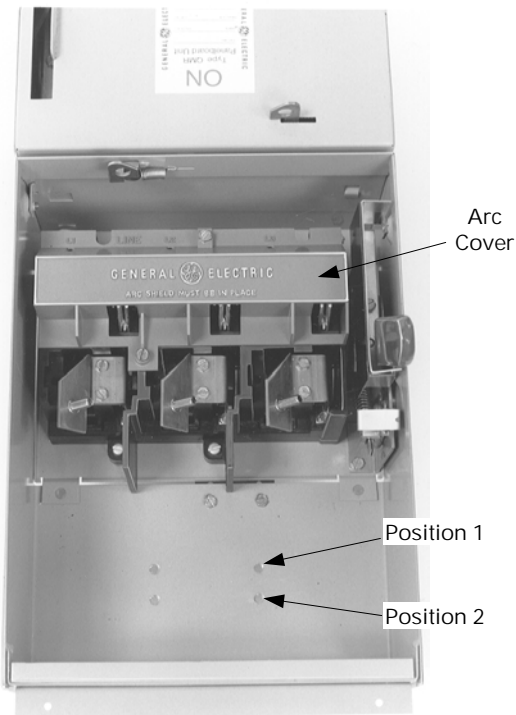
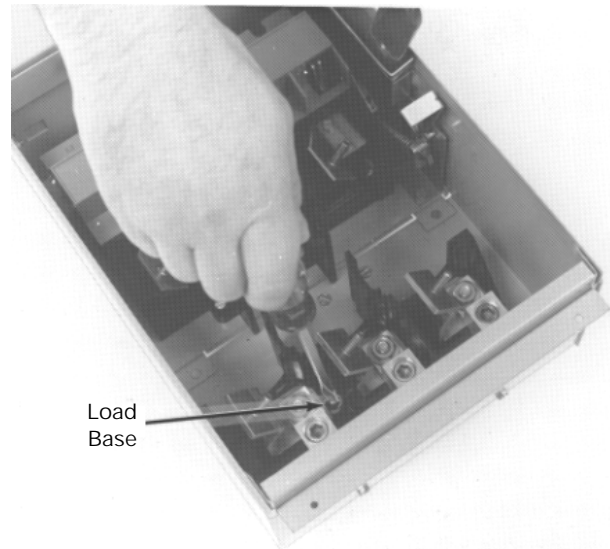
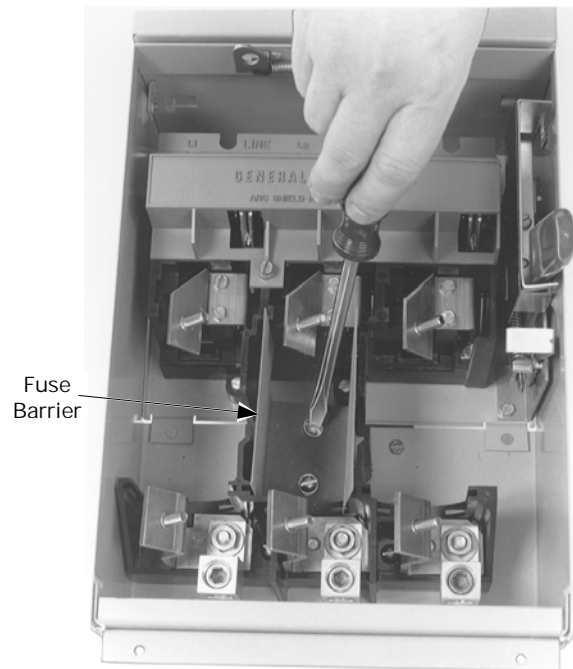

Figure 5. Replacing the arc cover.
Figure 6. Installing the load base.
Figure 7. Installing the fuse barrier for type J fuses.
Replace the hex nuts back onto the plate studs and tighten to 27–32 in-lb. Replace the red arc cover, as shown in Figure 5, and tighten the screws to 12–15 in-lb.
5. **Install the load base.** Install the load base into the enclosure, as shown in Figure 6. The position depends on the fuse type, as illustrated in Figure 5 and listed in Table 1. Tighten the mounting screws to 40–50 in-lb. For a type J fuse, install a fuse barrier, as shown in Figure 7, and tighten the mounting screws to 27–32 in-lb.